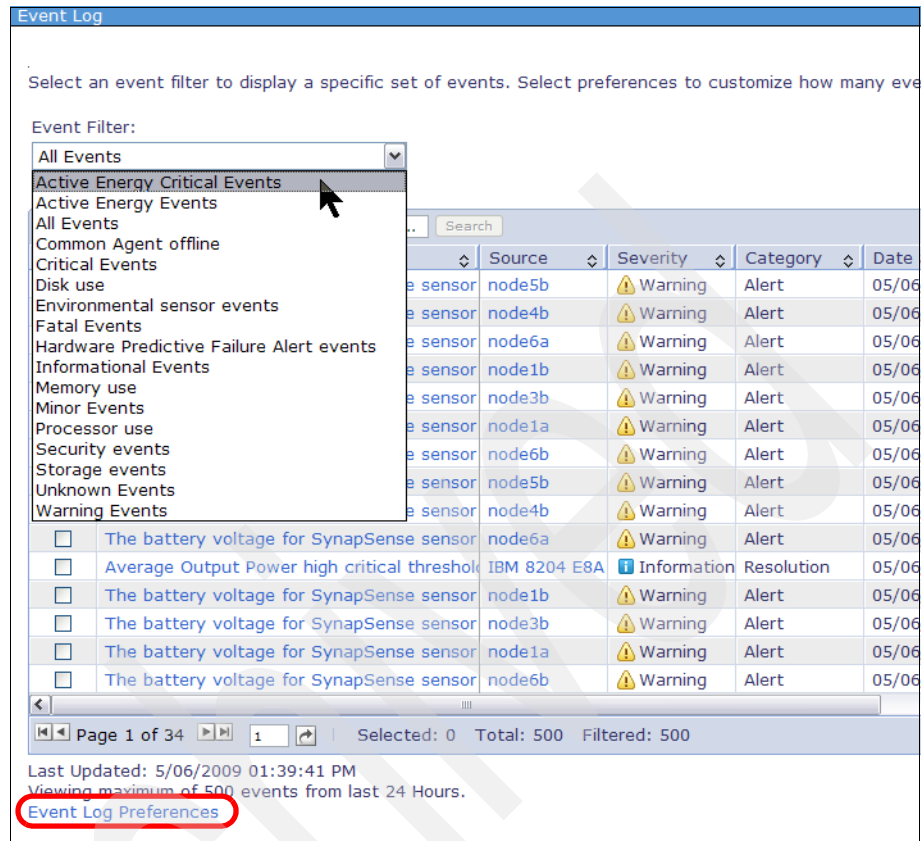

Figure 6-75 Subsetting the Active Energy Manager events
2. In the Event Log display, shown in Figure 6-75 on page 261, in the Event Filter drop-down menu, there are two filters for Active Energy Manager events:
- Click the Event Log Preferences shown in Figure 6-75 to specify a Time Range to display events, and the maximum number of entries to retrieve (Figure 6-76).
4. If you select the **Active Energy Critical Events** filter in Figure 6-75 on page 261, the Active Energy Manager critical events display (Figure 6-77).